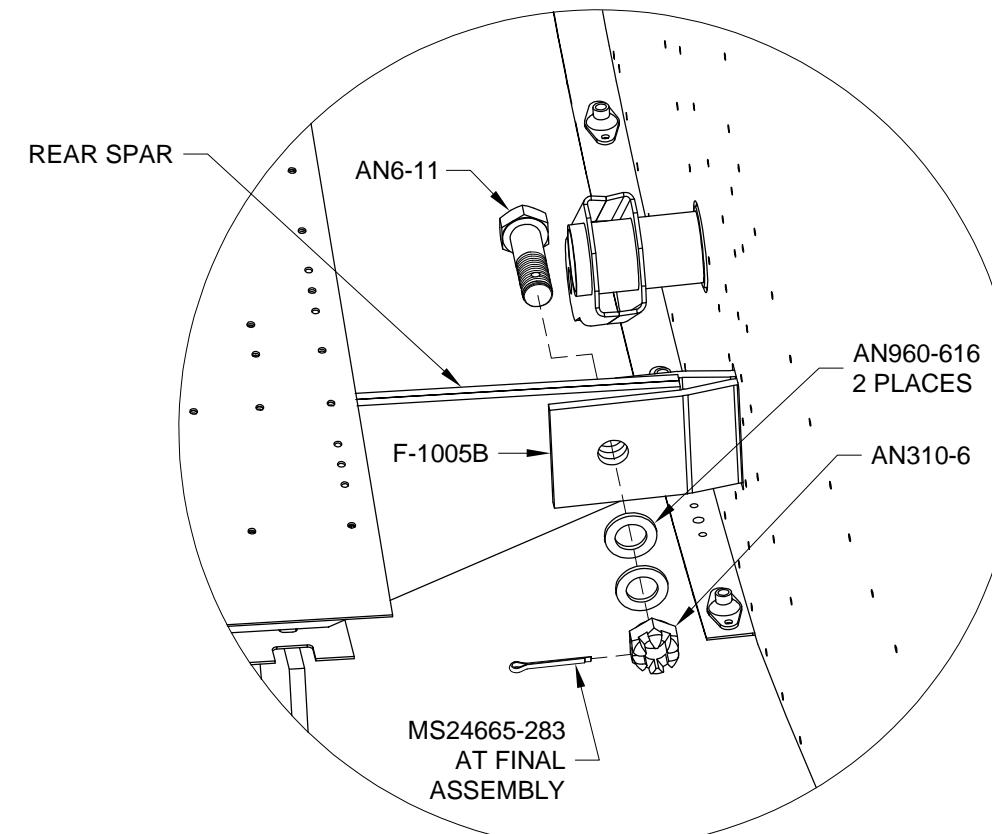

FIGURE 3: BOLT REAR SPAR ATTACH
Step 3: Remove the clamp. Bolt the rear spar to the F-1005B Rear Spar Attach Bars using the hardware shown in Figure 3.